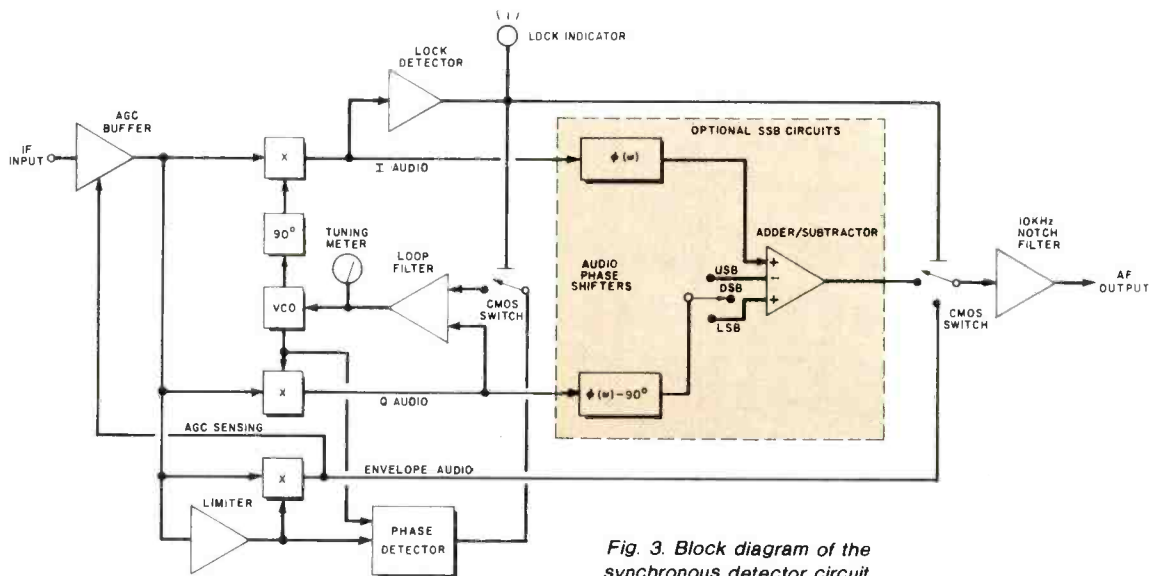

Fig. 3. Block diagram of the synchronous detector circuit.
**Circuit Description.** The block diagram of a synchronous detector appears in Fig. 3. The circuit accepts a sample of the receiver's i-f (preferably taken from the last i-f stage) and a PLL is used to recover the unmodulated carrier. The circuit also provides automatic switching between envelope and synchronous detection. When the PLL is unlocked during tuning or absence of signal, the envelope detector portion provides the audio output. When the PLL locks onto the carrier, the circuit automatically switches the audio output to the synchronous detector. This action avoids audio-disturbing beat notes that would otherwise occur during tuning.
The circuit in Fig. 3 includes an optional SSB detection feature (shown within the dotted box). With the addition of audio phase-shift networks, it is possible with synchronous detection to receive SSB, or just one sideband of a DSB signal. This technique is usually used as a SSB generation method, but works equally well for reception. The circuit also includes a notch filter to remove any audible 10-kHz beats produced by adjacent channel transmitters. The complete schematic is shown in Fig. 4.